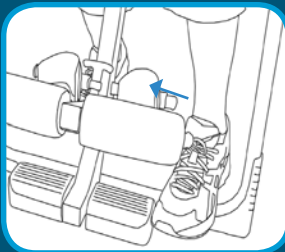
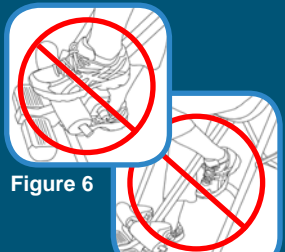

Figure 5
Figure 6
- Step over the Main Shaft, placing your feet on the floor on either side. To balance yourself, rest only your lower body against the Table Bed as you slide one ankle at a time between the ankle clamps onto the Ankle Comfort Dial. Be sure to slide your ankle in from the side (Figure 5); DO NOT insert your foot through the ankle clamps as you would slide your foot into a shoe. Your feet should always be either on the floor or on the Ankle Comfort Dial; never use any other part of the inversion table as a step (Figure 6 and 7).